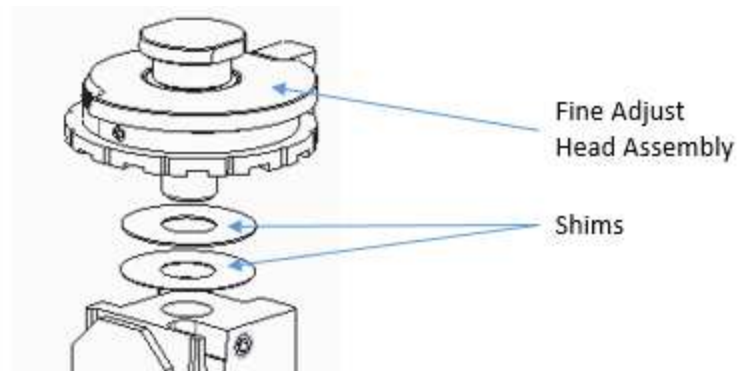

Figure 8
- a. The two ball detents on the fine adjust head assembly are aligned with the center-line of the insulation crimper and oriented relative to the front of the tooling (as shown in Figure 8).